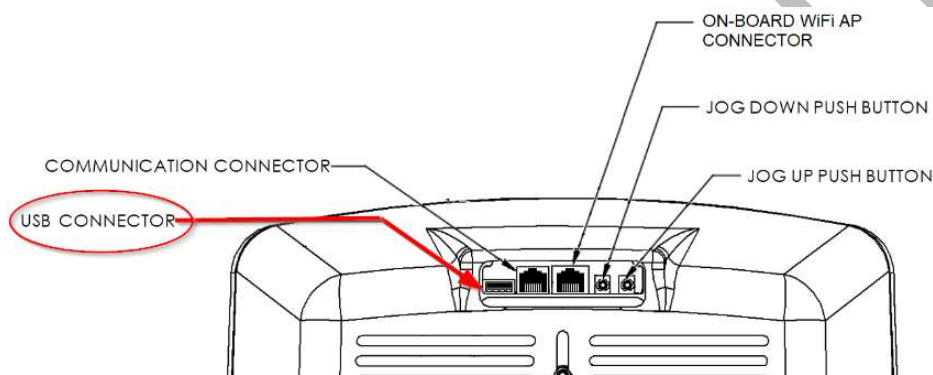

Figure 1: USB port
- Plug in the USB Flash Drive into the USB port in the G-Force® service door (Ref: Fig 1)
- Power down the G-Force and ensure the Flash Drive with the Software upgrade file is in the USB service port (Ref: Fig 1).